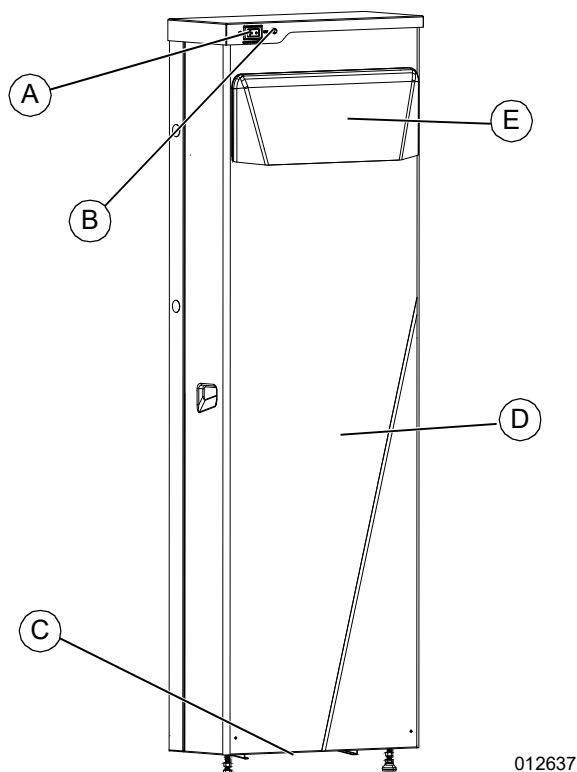

Figure 6-1. Component Locations
See Figure 6-1. The color and strobing interval of LED (B) communicates battery status.